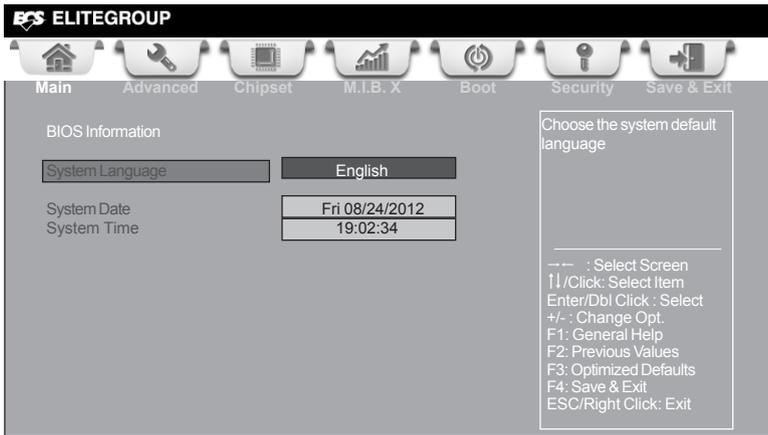

Figure 1.1 BIOS CMOS Setup Utility Main Screen
2. Use the arrow keys to select Advanced menu (see Figure 1.1), then select SATA Configuration and press Enter.